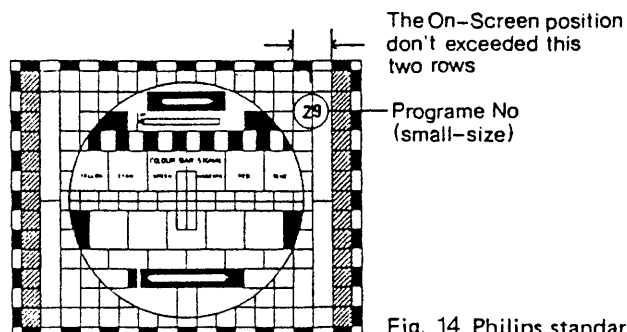

Fig. 14 Philips standard colour pattern
- (d) Adjust C413 for the programme No "29" (small size) position as shown in Fig. 14